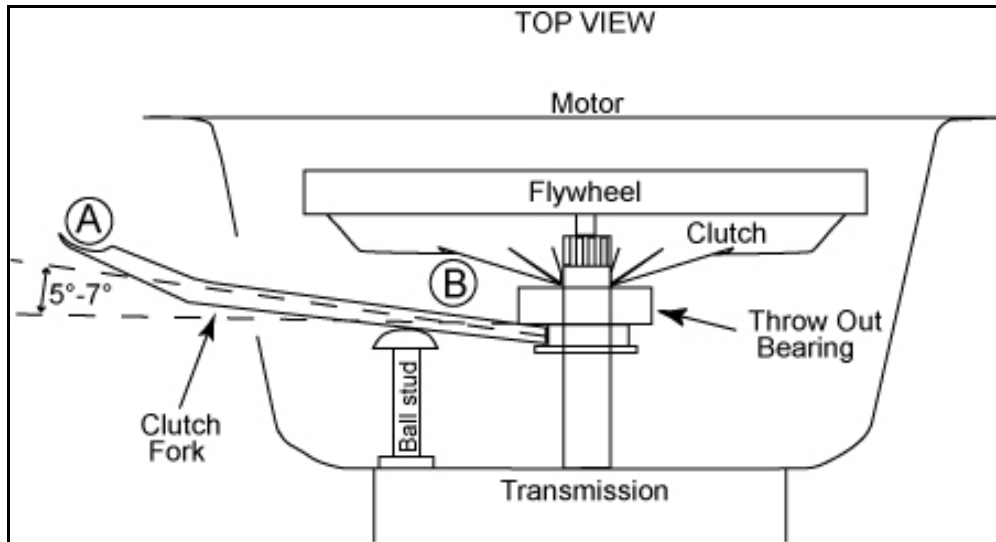

Fig. 2
3. Referring to **figure 2** below, with the clutch fork and throw out bearing installed on the ball stud, simulate the function of the clutch fork push rod by positioning your finger in the dimple of the clutch fork (**location A on diagram**) and pushing the clutch fork rearward until the throw out bearing moves forward and comes into contact with the fingers of the pressure plate. At this point check the angle of the clutch fork between the throw out bearing and the ball stud (**location B on diagram**). The clutch fork should be at an angle of approximately 5*-7* forward of parallel (angled towards the motor). To achieve the proper clutch fork angle, use the adjustability feature of the adjustable ball stud to achieve the required angle. Simply screw in or screw out the ball stud to achieve the proper clutch fork angle.